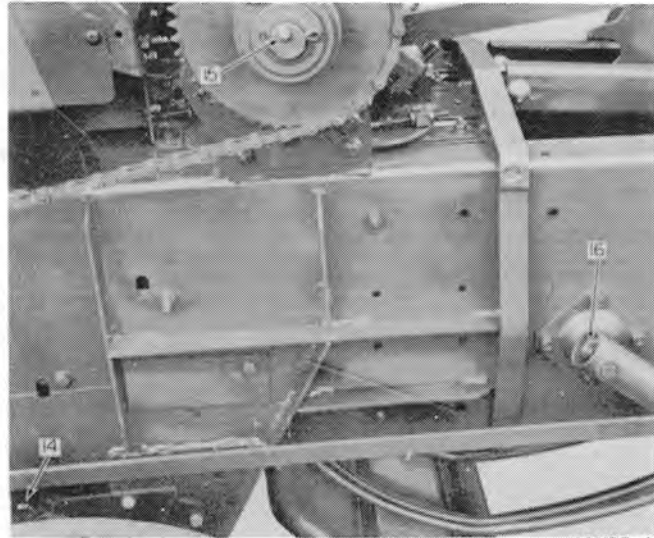

FIGURE 6
- 14. Figure 6 — Pickup pivot arm.
- 15. Figure 6 — Knotter clutch gear.
- 16. Figure 6 — Left needle yoke pivot.